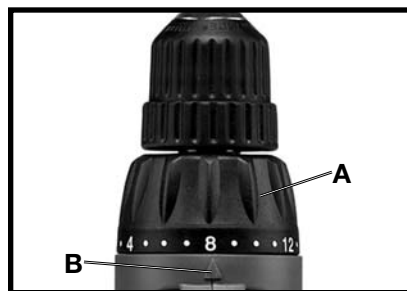

Fig. 3
The clutch unit provides twenty-three clutch settings plus a "Drill" (solid-lockup) setting. Lowest torque is available at setting #1, with maximum torque available at the "Drill" setting. The amount of output torque may be adjusted by rotating the front collar (A) Fig. 3, so that the desired torque setting is aligned with the index mark
(B) Fig. 3. In general, lower torque settings are used for driving small screws and other delicate work, while higher torque settings are used for driving larger screws. The "Drill" position is used for drilling and for driving very large screws.